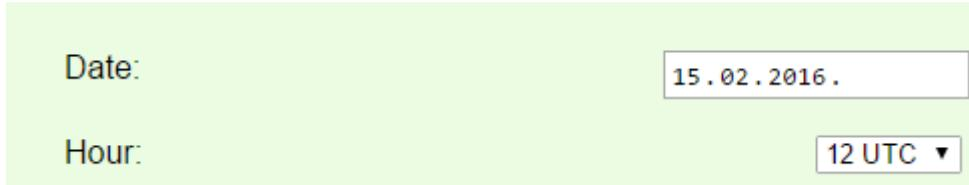

Figure 29 – Wind data obtained from meteorological server (by date and hour)
- **The fifth option** is to obtain wind data from meteorological database. The user is expected to select the date and hour, as seen in Figure 29.